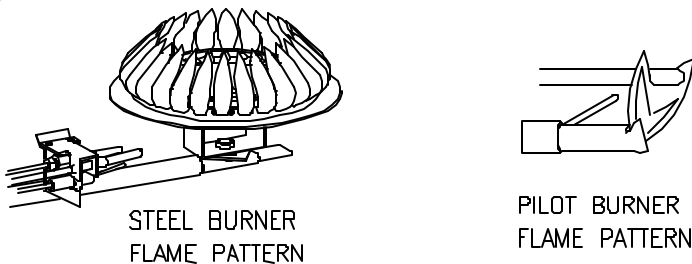

Figure 4
**Steel Burner:** These models are equipped with self adjusting air mixture and do not have an adjustable air shutter (See Figure 4). At periodic intervals, a visual check of the main burner and pilot flames should be made to determine if they are burning properly. The main burner flame should light smoothly from the pilot.